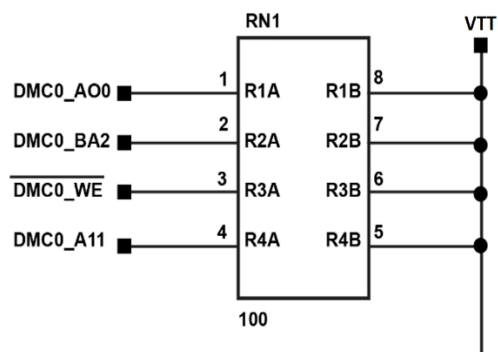

Figure 1. VTT Termination for Address and Command Line
- Implement VTT termination for the address and command lines as shown in Figure 1. VTT Termination for Address and Command Line, taken from *EV-21593 SOM® Schematic, Rev A, April 2020. Analog Devices, Inc.* ^[2]